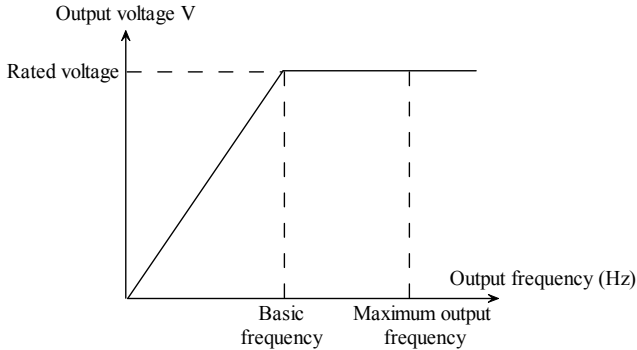

Fig. 5-0-1 Relationship between output frequency and output voltage
- ◆ Basic frequency F_{BASE} : The minimum output frequency when the output voltage of the inverter is equal to the rated voltage U_N . It is used as the benchmark of the regulating frequency. Usually, the rated frequency of the motor is used as the setting value of the fundamental frequency. In the usual case of the use, F_{BASE} is selected according to the rated frequency of the motor. In particular occasions of use, it can be set according to the operating requirement, but it should be noted to fit with V / F characteristic of the load motor and the output requirements of the motor, which is shown in Fig. 5-0-1 Relationship between output frequency and output voltage.